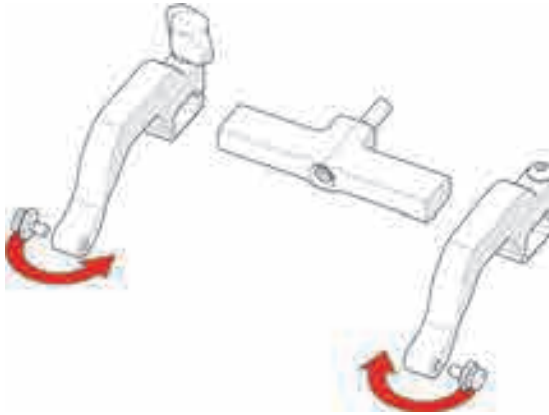

Figure 4-90 Position pivot buttons
5. Position the pivot buttons so they are on the inside of the probe holder arms (see Figure 4-90 on page 158).